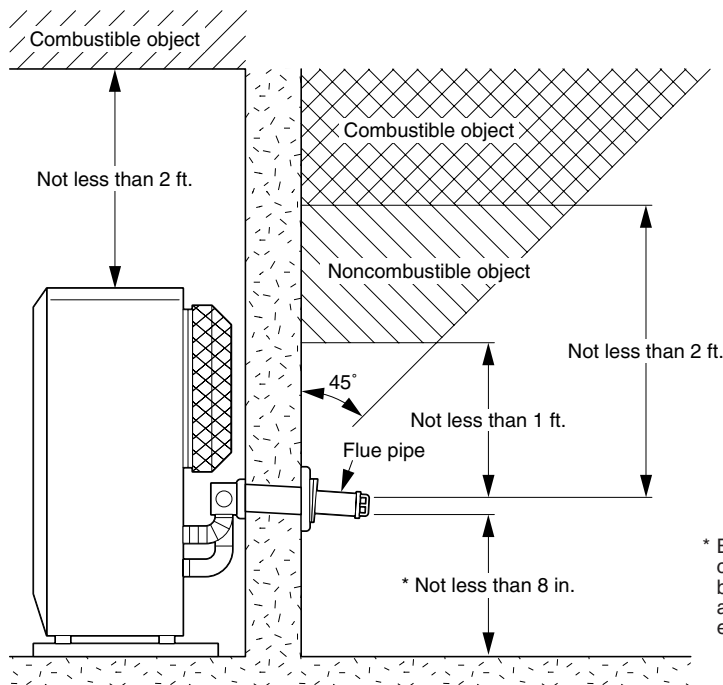

Fig. 2
①	Adjustable Exhaust Pipe Max. 39- ³ / ₈ ~ Min. 22- ⁷ / ₁₆	1
②	Intake Pipe (40 inch)	1
③	Insulating cloth cover (40 inch)	1
④	Pipe Holder	1
⑤	Pipe Support Hardware	2 sets
⑥	L-Shaped Exhaust Joint	1
When using the "Extension pipe (M)" extension kit, the distance between the heater exhaust pipe connection and the flue pipe connection must be at least 25-⁵/₈ inch but no more than 42-¹/₂ inch. (See Figure 2 for reference.)
2. Make sure that the outside area to where the flue pipe will reach is clear of any objects. (See Fig. 2 & 3)
CAUTION! The standard flue pipe installation, as shown in Fig. 2, is for wall thickness from 4 in. to 9 in. ONLY.